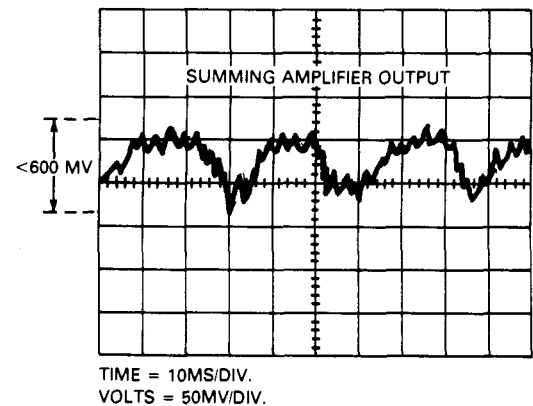

Figure 9-9 Summing Amplifier Output
9. Each drive's summing amplifier output at this point will look slightly different, but it should be similar to the waveform shown in Figure 9-9.